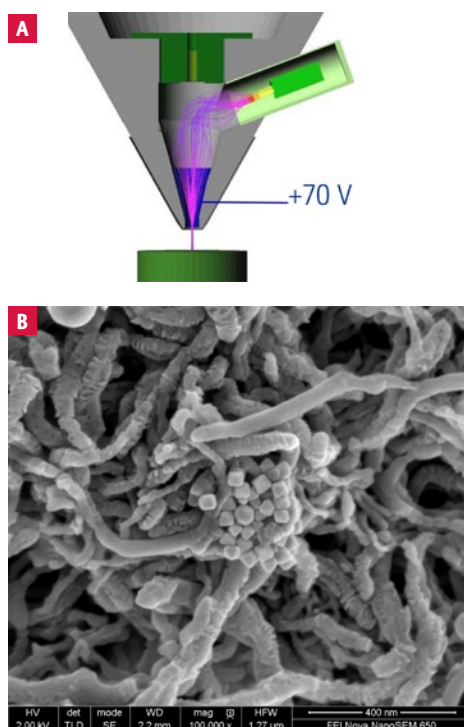
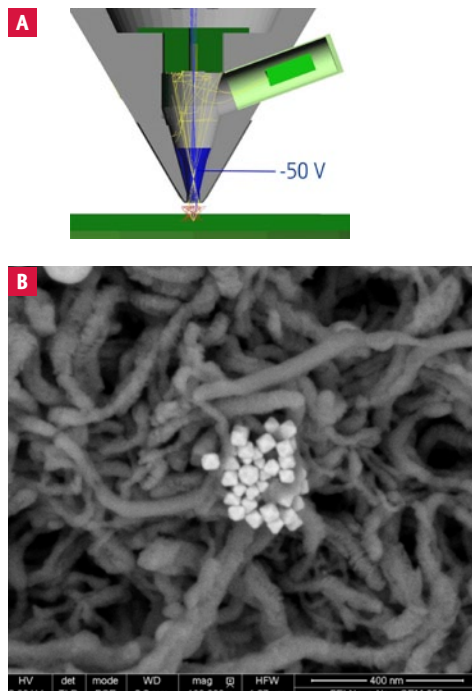

Figure 2: (A) Schematic of final lens showing in-lens SE detection and (B) a resulting BSE image acquired using a 2 keV beam.
Figure 3: (A) Schematic of final lens showing in-lens BSE detection and (B) a resulting BSE image acquired using a 2 keV beam.
This can be seen in **Figure 2 (B)**, where the surface of a carbon fiber network is imaged at low energies, providing high contrast details of the surface with the size and distribution of the fibers. By combining an immersion lens system with a biased suction tube [**Figure 2 (A)**] (i.e., FEI's Helios™, Verios™ and Nova™ NanoSEM platforms), almost 100% of SEs can be directed back into the lens of the SEM, where they are then detected by the in-lens detector. This high efficiency detection translates into reduced beam damage to sensitive materials since a lower dose is required for image acquisition.
Backscattered electrons (BSEs), on the other hand, are emitted from deeper in the sample, supplying information on morphology, composition, or grain orientation. By simply adjusting the suction tube voltage in the final lens [Figure 3(A)], it's possible to filter the energy of the electrons that enter the detector to distinguish between SE and BSE signals.
This can be seen in Figure 3 (B), which shows a 2 keV image in BSE mode in contrast to the same area scanned in Figure 2 (B).